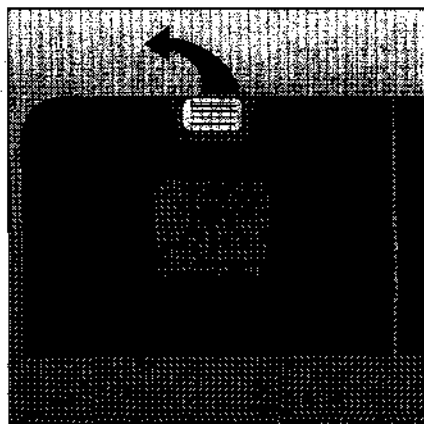

Fig. 9
- ☐ Press the cap lever forwards (Fig. 9/1). The lid will spring open.
When washing heavily soiled crockery, you have the option of putting additional detergent in the cap dispenser (Fig. 9/2). Fill the cap level. This detergent will be already effective during Pre-wash.